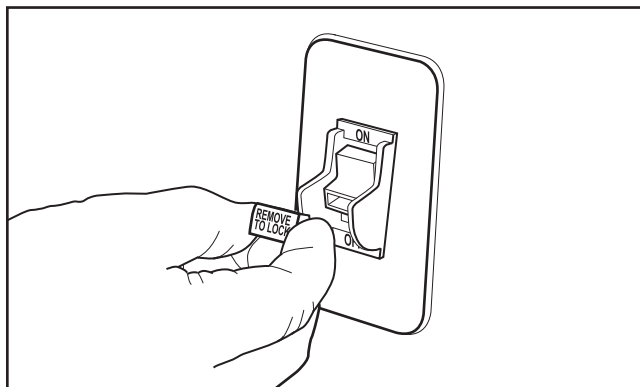

Figure 16. Removing switch key from conveyor toggle switch.
12. Turn the conveyor belt **OFF**, and remove the switch disabling key, as shown in **Figure 16**.